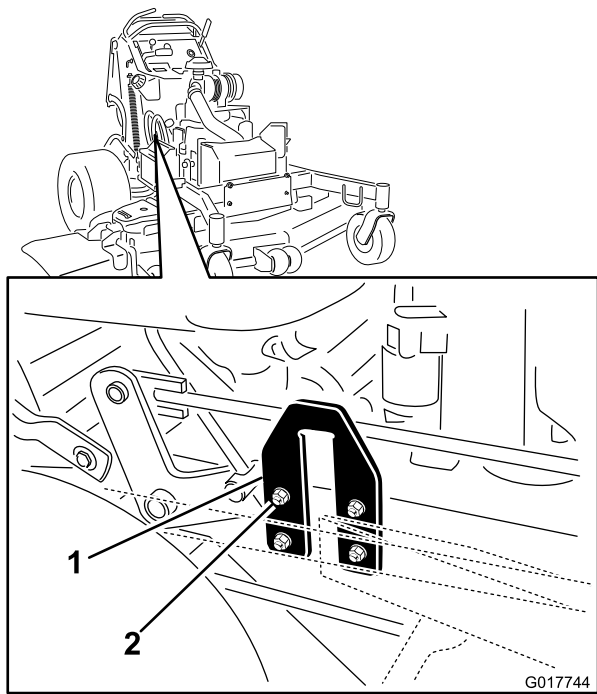

Figure 91
2. Locate the U-plates on the side of the engine deck (Figure 91).
3. Loosen the U-plate on one side and adjust it up or down to make the difference between measurements **B** and **C** no more than a 6 mm (1/4 inch) (Figure 91).